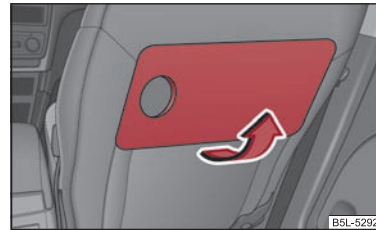

Fig. 57 Folding table on the seat backrest of the front seats
- Fold the table into the horizontal position by pulling in the direction of arrow ⇒ fig. 57.